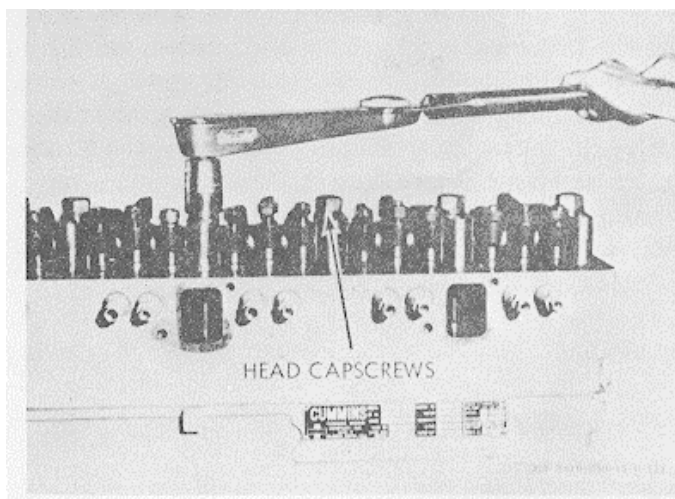

Figure 3-145. Torquing cylinder head capscrews.
- (g) Continue to tighten capscrews, in 100 ft. lbs. increments, to 300 ft.-lbs., figure 3-145.